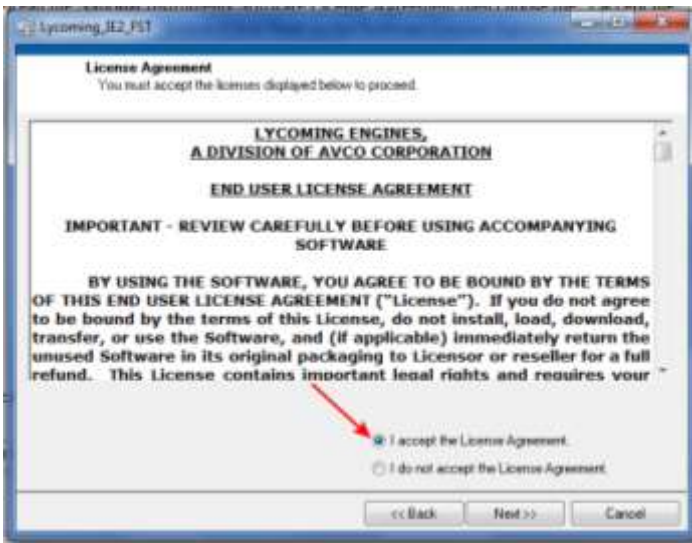

Figure C-16
- Read the Lycoming Software License Agreement then choose the “I accept the License Agreement” button. Click **Next** on the License Agreement page (Figure C-16).